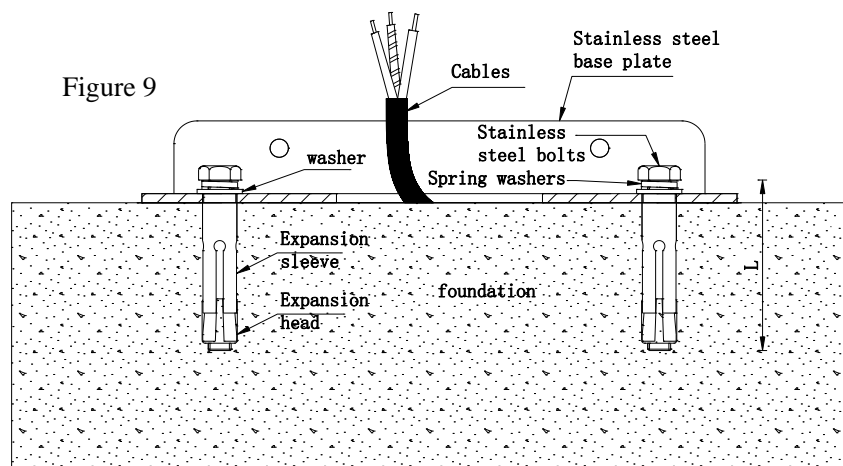

Figure 9
2.4 Install the stainless steel expansion bolt on the stainless steel chassis, and the expansion sleeve is in a loose state. Then the bolt is inserted into the bottom hole, and then the expansion bolt is locked with a hex wrench, and the chassis is smoothly fixed on the foundation, Figure 9.